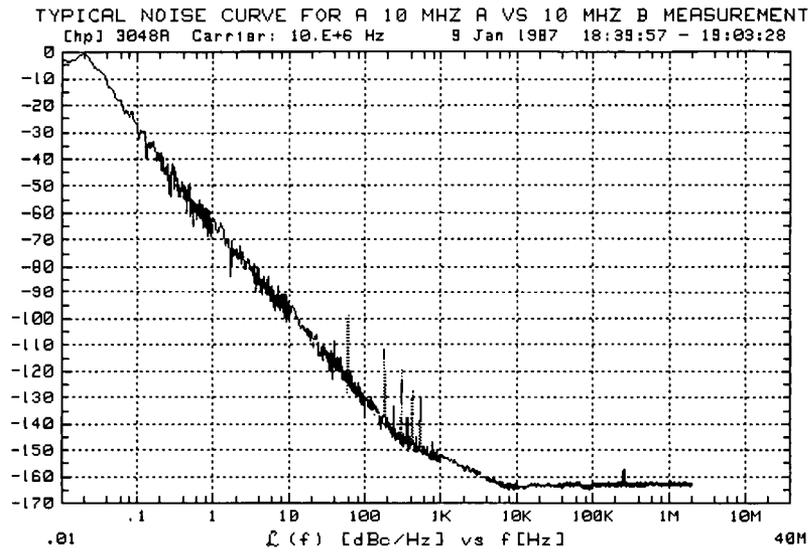

Figure A-5. Typical Noise Curve Obtained by System Verification
6. If the measurement proceeds without any error messages and the measured noise is within 10 dB of that in Figure A-5, the HP 3048A system is functioning properly.